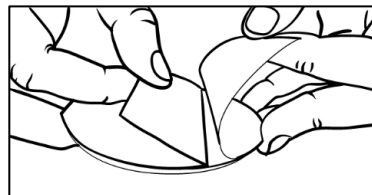

Figure 5 Remove Liner
1. Remove the adhesive liner, as shown in Figure 5.